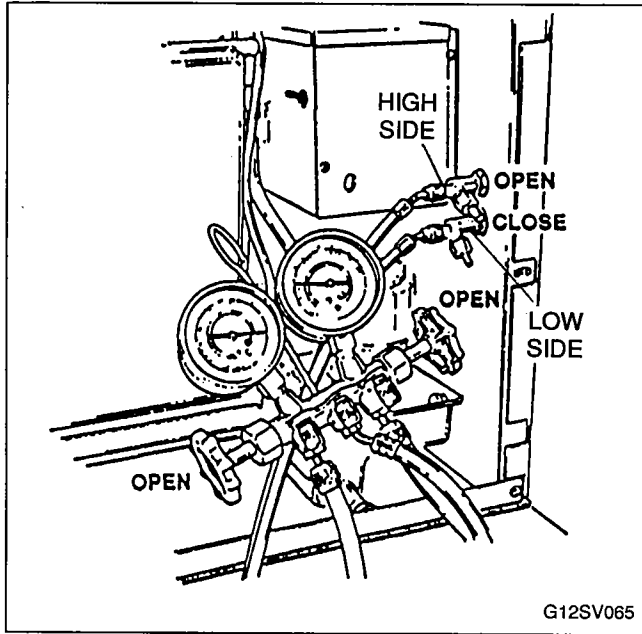

FIGURE 65. INSTALLING MANIFOLD GAUGES
1. Connect high side line to high side service valve at ice machine. See Figure 65.